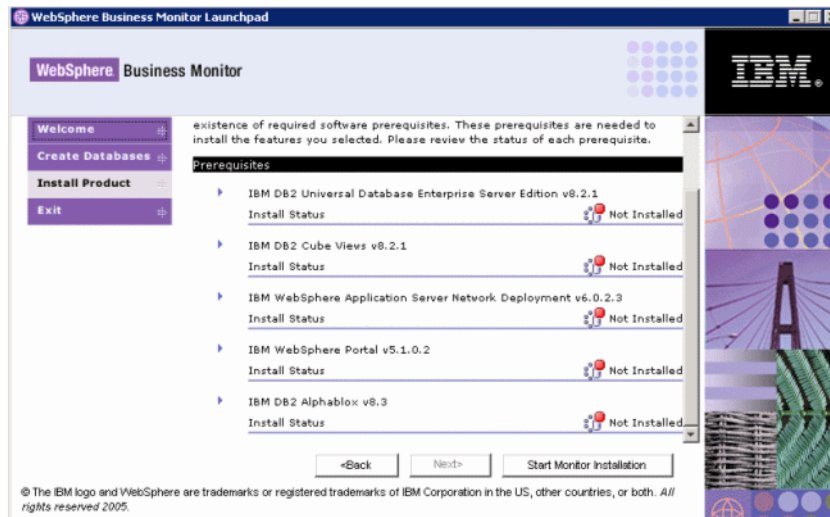

Figure B-13 Monitor Dashboard pre-requisites not installed
- ▶ The Launchpad verifies the pre-requisites for the Dashboard Client and displays that none of them are installed (Figure B-13).